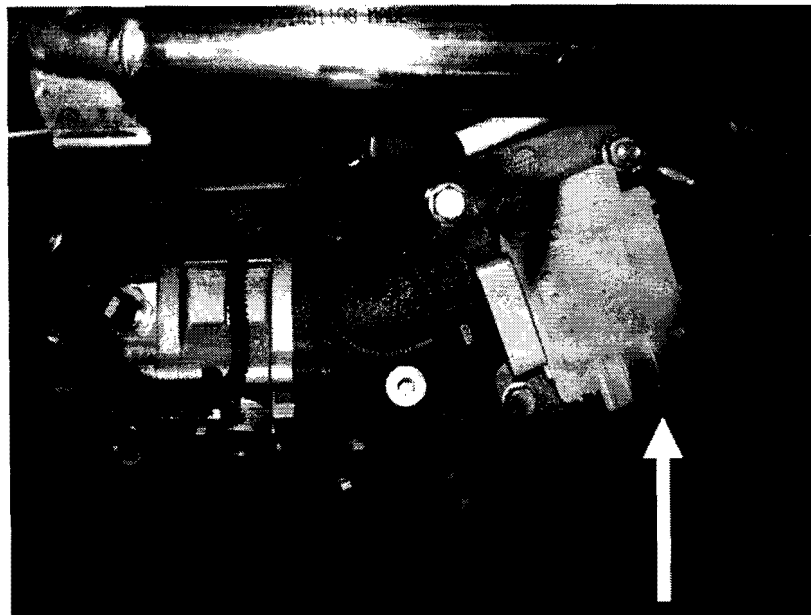

Figure 3 – Positive Cable Connection At Grid Heater
8. Disconnect the positive cable from the grid heater. See Figure 3.